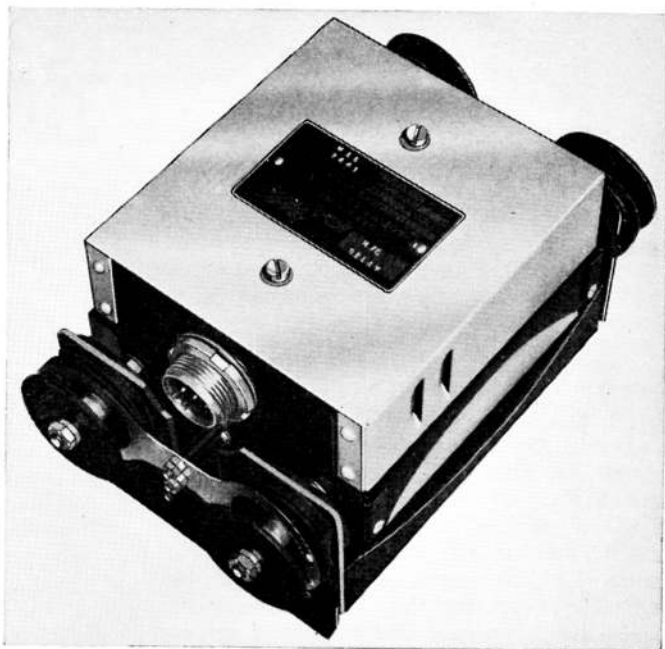

Fig. 1. Balancer relay, Type MAA
2. The balancer relay (*fig. 1 and 2*) incorporates a moving coil assembly and two double-pole, normally-open slave re-